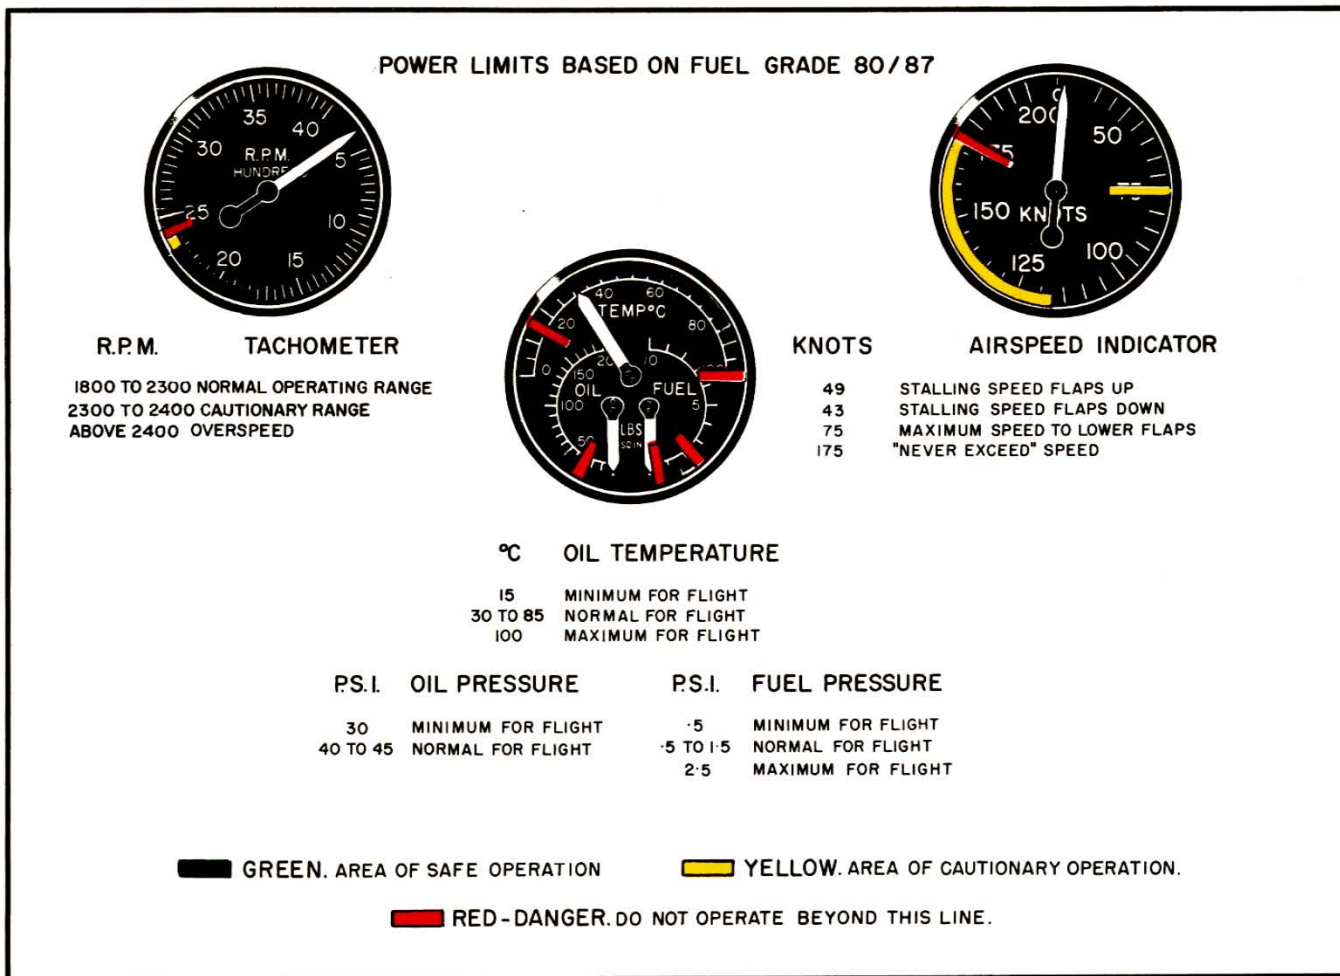

Figure 4-4 (Issue 2) Instrument Markings
- 3 For instrument markings, showing operating limits, see Figure 4-4.